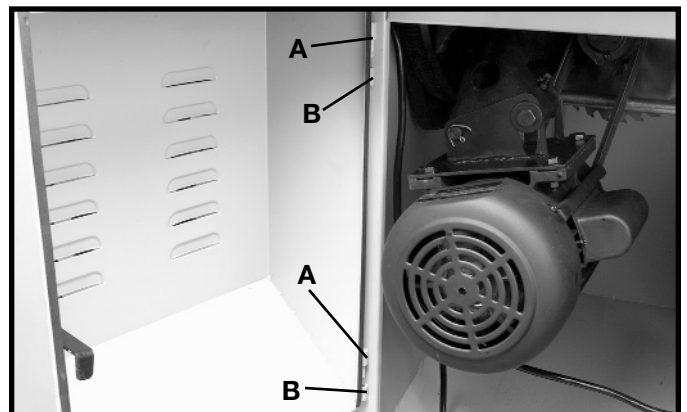

Fig. 26
1. Align the two hinge pins (A) Fig. 26 on the motor cover with the two hinge catches (B) on the right side of the cabinet.
2. Insert the hinge pins (A) Fig. 26 on the motor cover into the two hinge catches (B).